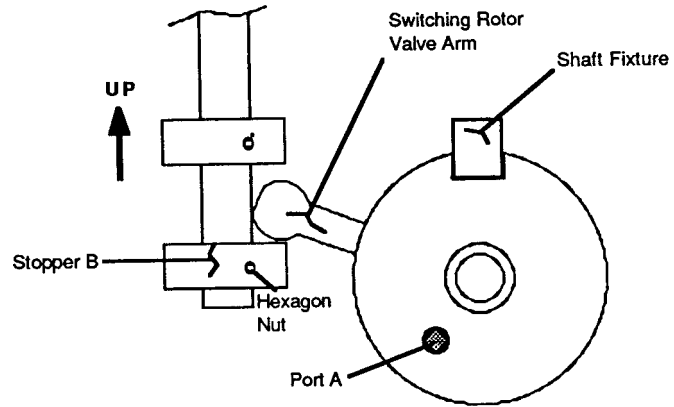

Figure A-2 Upmost Position of Switching Rotor Valve
- B. Insert the alignment pin into the hole (A).
- E. Loosen the hexagon nut of the Upmost Stopper as shown in Figure A-2.